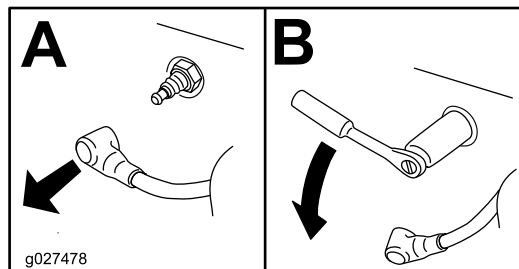

Figure 44
4. Remove the spark plug(s) as shown in Figure 44.